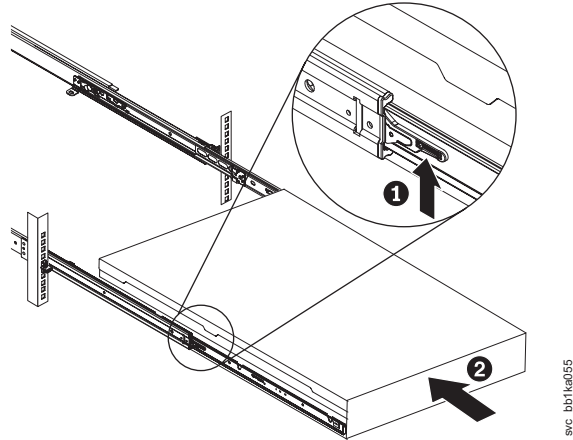

Figure 73. Raising the SAN Volume Controller 2145-CF8 locking levers of the slide rails of the rack
7. Lift the locking levers (**1** in Figure 73 on page 88) on the slide rails and push the server **2** all the way into the rack until it clicks into place.